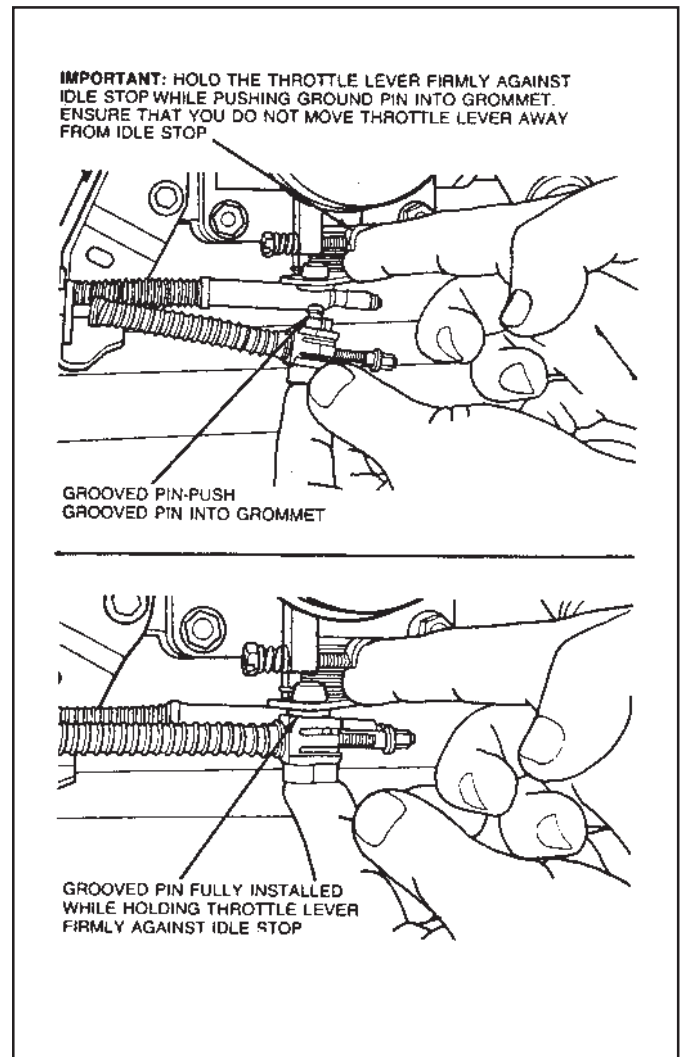

Figure 23
- 6.5 While holding throttle lever firmly against its idle stop, push grooved pin into grommet on throttle lever as far as it will go. NOTE: While pushing pin into grommet, make sure you do not move throttle lever away from idle stop. (See Fig. 23.)